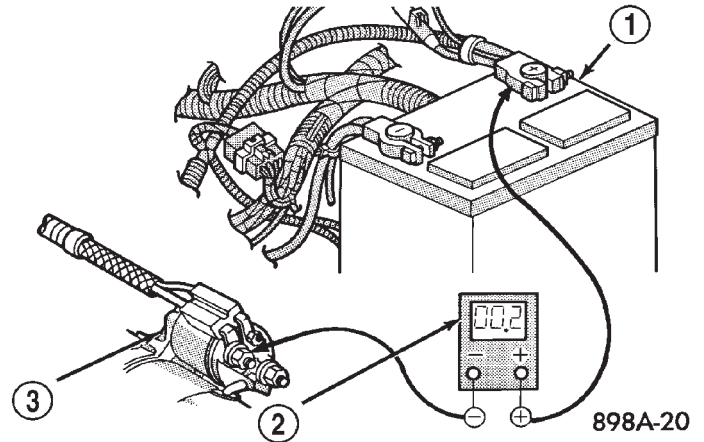

Fig. 23 Test Battery Positive Cable Resistance - Typical
(3) Connect the voltmeter to measure between the battery positive cable terminal clamp and the starter solenoid B(+) terminal stud (Fig. 23). Rotate and hold the ignition switch in the Start position. Observe the voltmeter. If the reading is above 0.2 volt, clean and tighten the battery positive cable eyelet terminal connection at the starter solenoid B(+) terminal stud. Repeat the test. If the reading is still above 0.2 volt, replace the faulty battery positive cable.